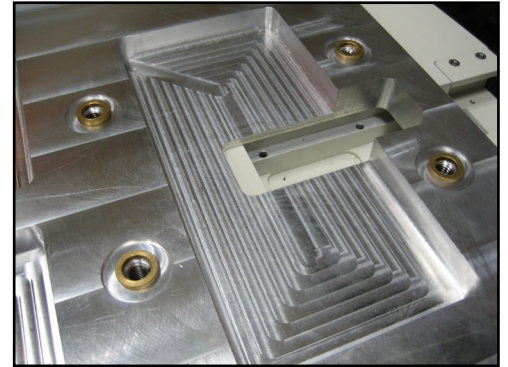

Fig. 46
3. Place the 4 brass shims concentrically over the 4 rear tapped holes in the Interface Plate (Fig. 46).